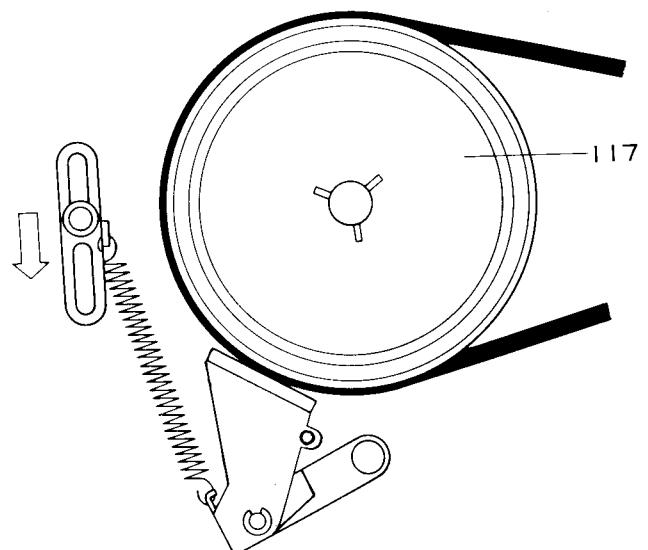

Fig. 12
* TAKE-UP REEL SPINDLE (Refer to Fig. 12)
- (1) Put 7-inch test reel on the take-up reel spindle.
- (2) Hook a tension gauge on the reel and pull it in the direction at right angle to the center of the reel.
- (3) If the set is normal, the tension is 810 ± 150 g.cm in clockwise and 135 ± 15 g.cm in counterclockwise.
- (4) If the tension is out of this range, adjust it as follows.
- 1) In case the value measured is lower than normal value, move the adjusting plate (067) in the opposite direction to the arrow in Fig. 12.
- 2) In case the value is higher than the normal value, move the adjusting plate (067) in the arrow direction as shown in Fig. 12.